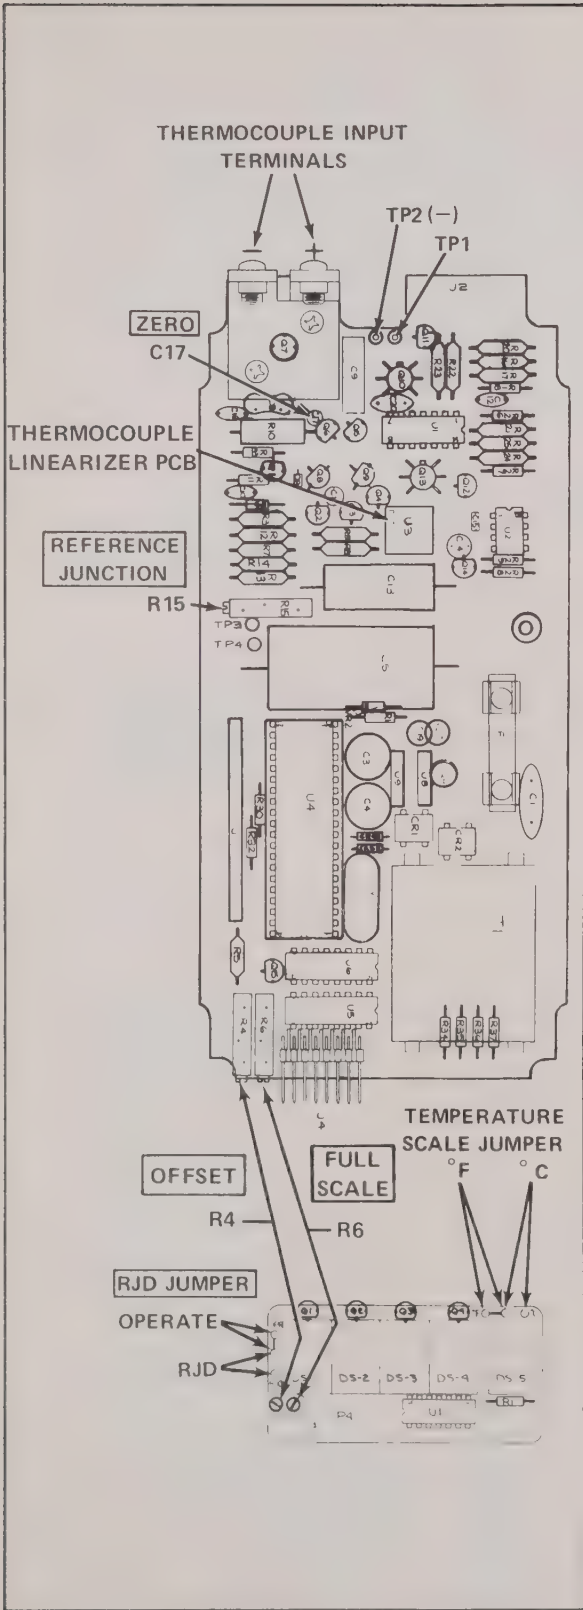

Figure 4-1. TEST POINT AND ADJUSTMENT LOCATIONS
- Locate the RJD jumper on the display pcb (See Figure 4-1) and set it to the RJD position. (This defeats the reference-junction circuitry.)
- g. Set the TEMP-scale jumper to °F or °C. (See Figure 4-1.)
- a. Determine the thermocouple compatible with the thermometer. The markings on the plug-in linearizer (type-select) pcb indicate the thermocouple type. (See Figure 4-1.) The instrument will have to be removed from its case to see the linearizer pcb. (See Paragraph 4-7.)